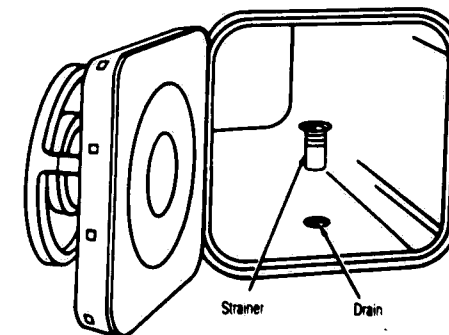

FIGURE 4-1 - Chamber Drain Strainer
- c. Remove chamber drain strainer (Figure 4-1). Clean out lint and sediment; reverse flush under running water.
- b. Remove chamber drain strainer (Figure 4-1). Turn MANUAL control **COUNTERCLOCKWISE** to CHAMBER DRAIN.
1. Remove chamber drain strainer (Figure 4-1). Clean out all lint and sediment, then reverse flush strainer under running water.